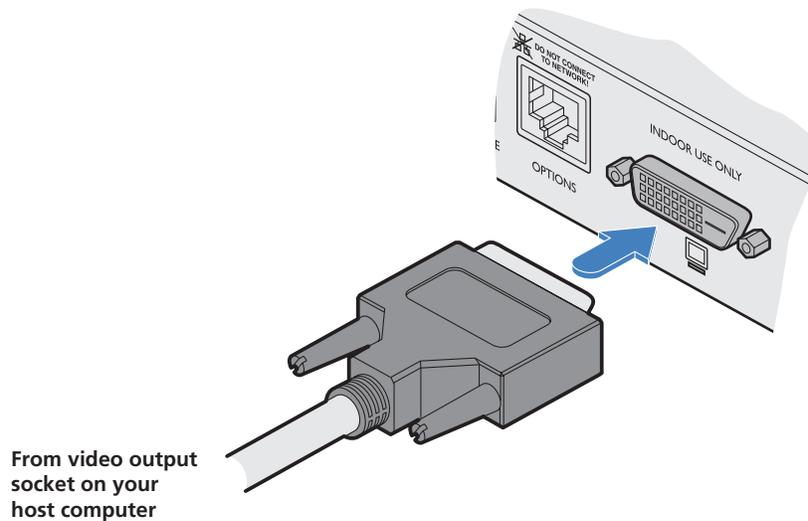

Figure 3-1. Connecting the video link to the local module.
1. Connect the supplied digital video link cable between the DVI-D socket on the local module rear panel and the DVI-D video output socket of your host computer. See Figure 3-1.